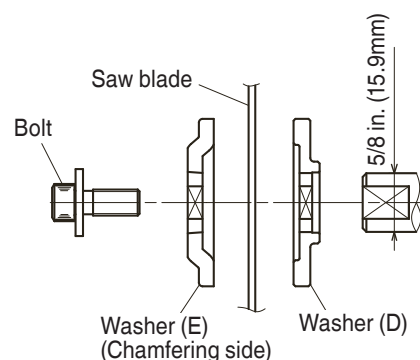

Fig. 27-d
- (7) Press in the spindle lock and tighten the bolt by turning it to the left by standard accessories wrench (5mm Hex. bar wrench) as indicated in Fig. 27-c.